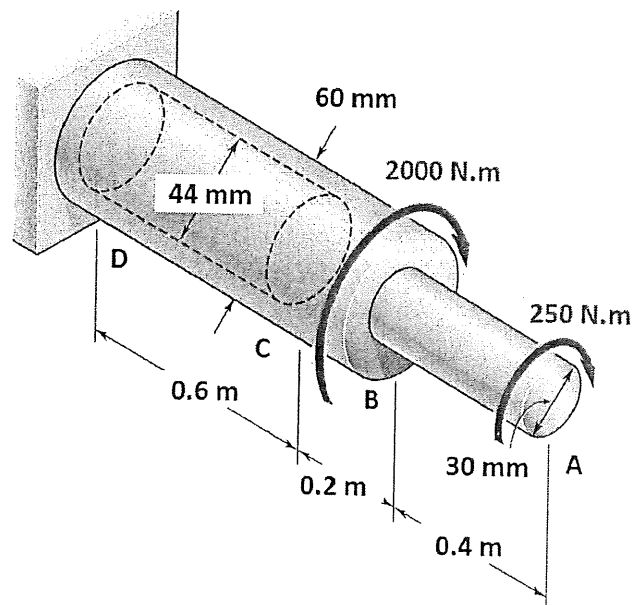

Figure 2
- b) Two horizontal shaft AD is attached to a fixed base at D and is subjected to the torques shown in Figure 2. A 44 mm diameter hole has been drilled into portion CD of the shaft. Knowing that the entire shaft is made of steel which  $G=77$  GPa,